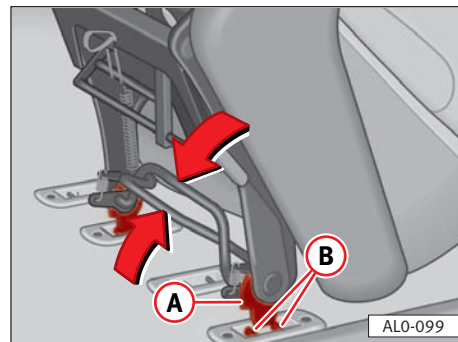

Fig. 100
• Squeeze the two bars under the seat together ⇒ arrows, **fig 100** and hold.
• Position the seat frame ⇒ **fig 100 A** between the retaining pins ⇒ **fig 100 B** in the floor mounting points and release the two bars.
• **Vehicles with 6 seats:** seat ② has a lap belt and can be fitted in the position of seat ③. If the vehicle has a three-point seat belt for seat ③, seat ⑤ can be fitted in the position of seat ③. To do this, the armrests of seats ①, ② and ④ should be removed ⇒ page 108.